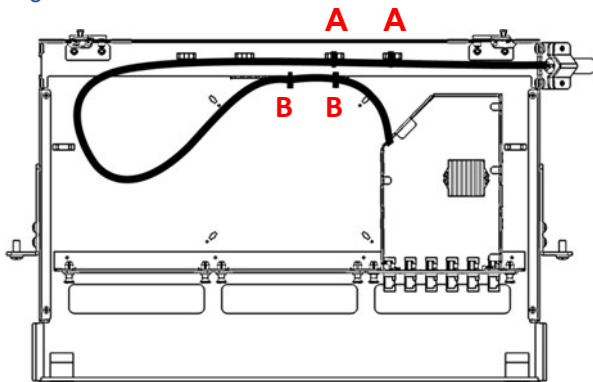

Fig. 6
3. Using four tie wraps, secure the assembly to both the shelf back [A] and the sliding drawer bulkhead [B] (Fig. 6).